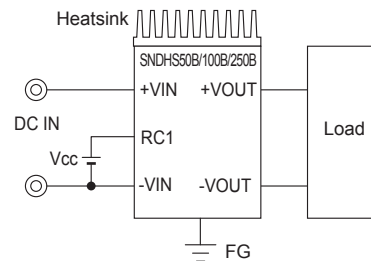

Fig.2.3 Connection 2 for standard use
■ This power supply must be prepared another power supply to the RC1 terminal (as shown in Fig.2.3).